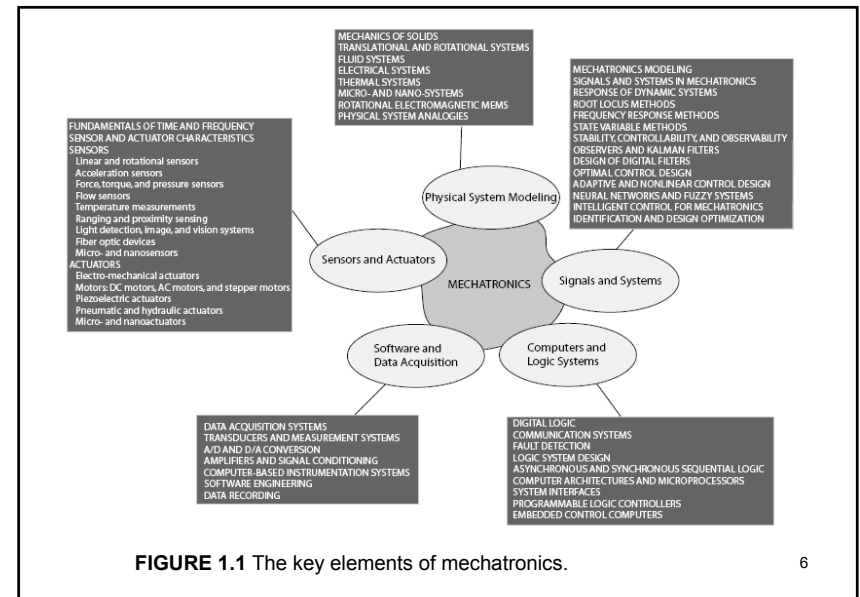

FIGURE 1.1 The key elements of mechatronics.
- The key elements of mechatronics are illustrated in Figure 1.1.